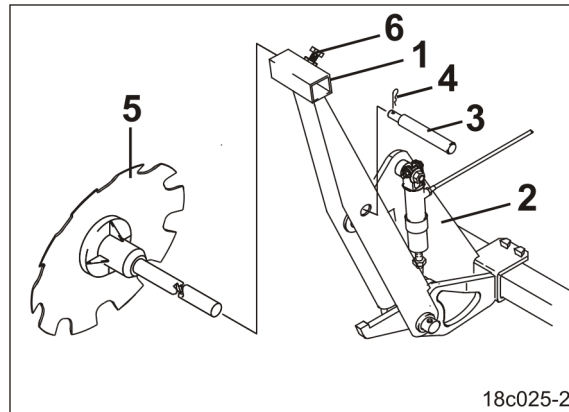

Fig. 213
2. Secure the track disc carrier (Fig. 213/1) to the transport brackets (Fig. 213/2).
3. Secure the pin (Fig. 213/3) with spring cotter pins (Fig. 213/4).
4. Unscrew the fastening bolt (Fig. 213/6).
5. Pull the track disc (Fig. 213/5) out of the track disc carrier (Fig. 213/1) and take it with you in a suitable storage compartment.